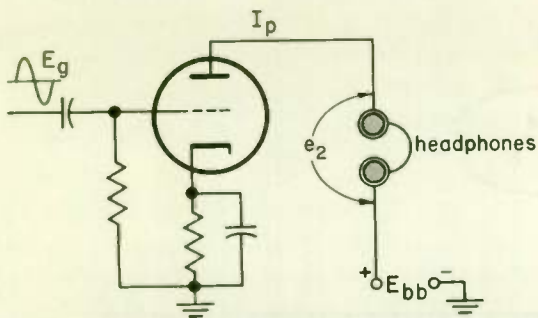

Fig. 10 The greatest power is delivered to the phones when $e_2 \times I_p$ is greatest.
Figure 10 shows a triode tube feeding the signal to a set of headphones. The amplitude of the sound in the phones is proportional to the signal power delivered to the phones. What impedance should the headphones have for the loudest sound? If all we had to consider was voltage gain, we would, in accordance with our discussion of voltage amplifiers, make the headphone impedance as high as practical. But this simple rule doesn't work here because we must consider both signal voltage and signal current.
We always get the most power output from a power source when the load impedance equals the voltage source impedance. Thus for the loudest sound in the phones of Fig. 10 the impedance of the phones should be equal to the plate impedance of the tube. However, obtaining maximum output by matching load to tube impedance results in considerable distortion. In the interest of reducing distortion, it is usual to make the load impedance equal to twice the plate resistance when a triode tube is used. This arrangement will generally give for a triode, the highest power output
3. Refer to Fig. 10. To deliver the maximum amount of power to the headphones with the minimum allowable distortion, the impedance of the headphones should be (*equal to*) (*twice*) (*one-half*) the value of the tube plate resistance.
4. Refer to Fig. 10. If the plate resistance of the tube is $2500\ \Omega$, what should the impedance of the headphones be to keep the minimum allowable distortion 5 per cent or less?